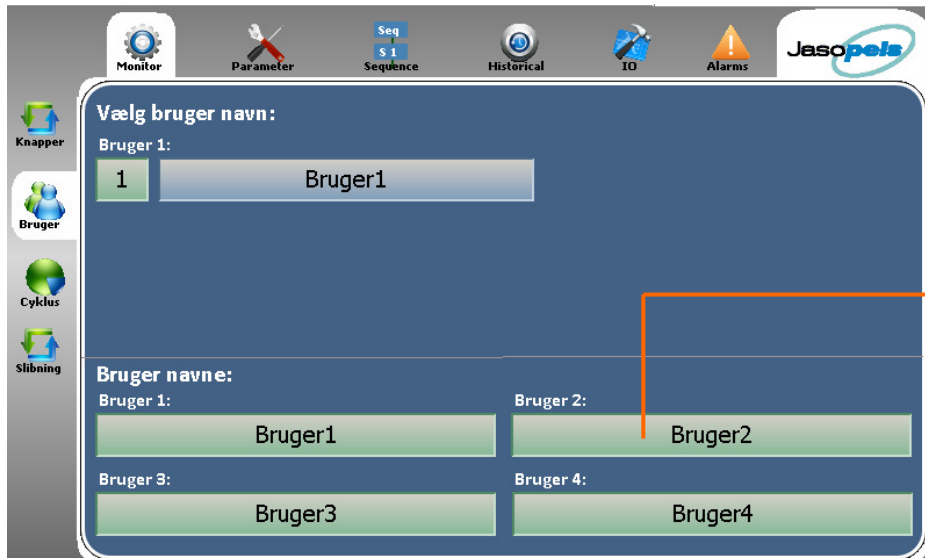

Fig. 3 User
- In fig. 3 you can see how you can enter user names. When you press the bar, you cause a keyboard to pop up, thanks to which you can enter user names. To end this operation, press Enter.